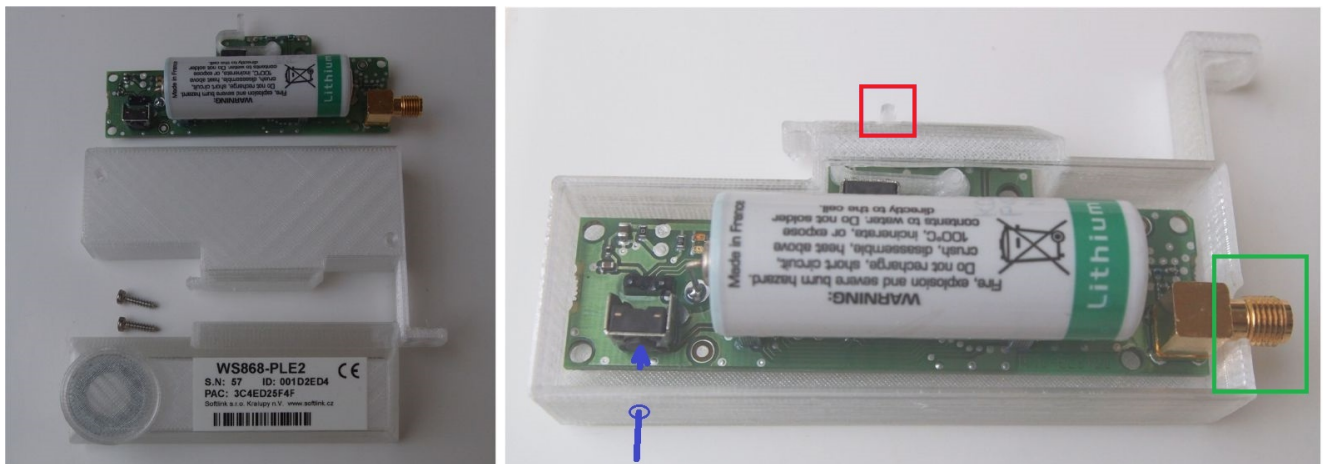

Figure 11: Detailed view of WS868-PLE2 module
Both parts are screwed together by two screws and there is no reason to dismantle the casing during normal operation. View of assembled WS868-PLE2 module is displayed in the figure 1. View of all components of disassembled module (left) and view of module printed circuit board inserted into back cover (right) is displayed in the figure 11.
- counter reset micro-switch is accessible through the small circular hole in the left part of module lower side (see figure 11 right). Press the reset switch for approximately two seconds by using of convenient tool (the best tool is 1 mm thick plastic stick prepared and tested in advance). After this time the counter reset is confirmed by triple blinking of red LED;